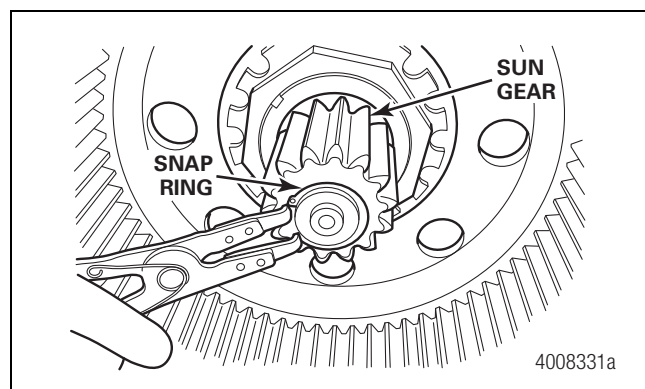

Figure 7.3
1. Remove the sun gear snap ring from the end of the axle shaft. Figure 7.3.